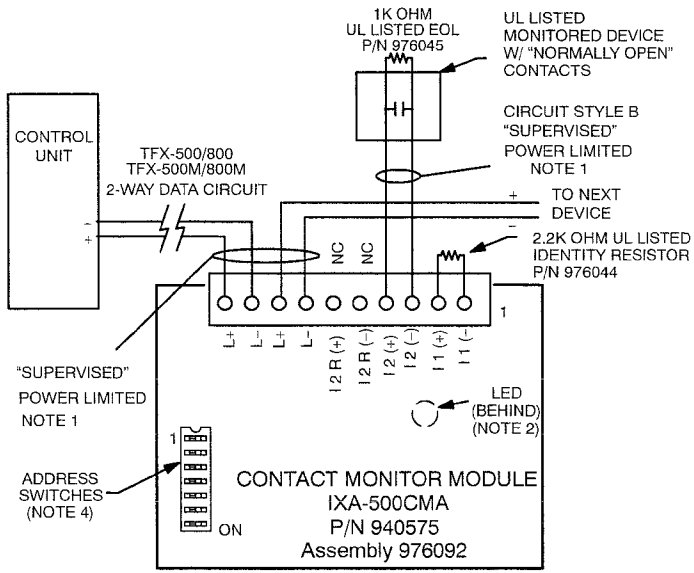
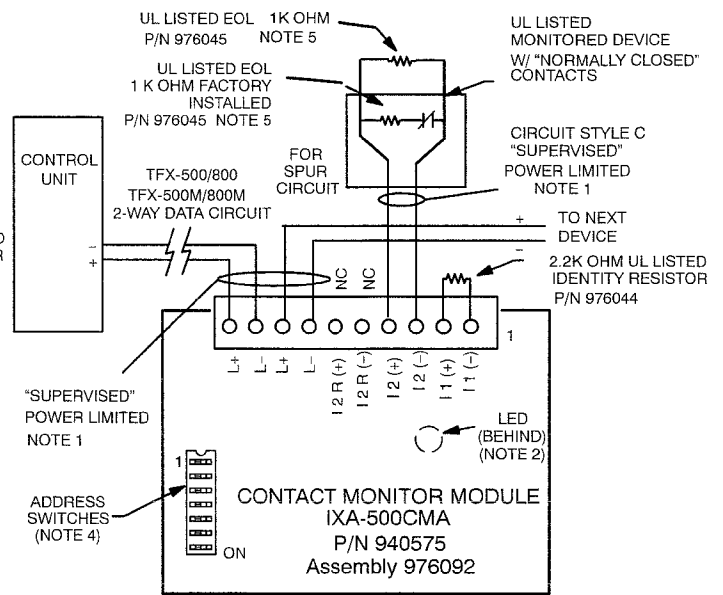

Figure 3 Typical Style B. All circuits and connections are power limited/Class2.
Figure 4 Typical Style C. All circuits and connections are power limited/Class2.
Figures 3 and 5	Figures 4 and 6
7. Connect the UL listed monitored contact device(s) as shown in Figure 3, 4, 5, 6, or 7.
8. Install the EOL resistor(s) into the circuit of the monitored contact device(s) as shown in Figure 3, 4, 5, 6, or 7. (See Table 1 for value.)
**Notes Figures 3, 4, 5, 6—Single Contact Application:**